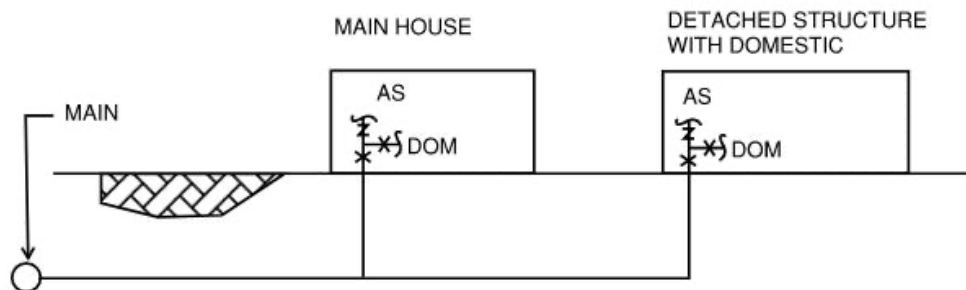
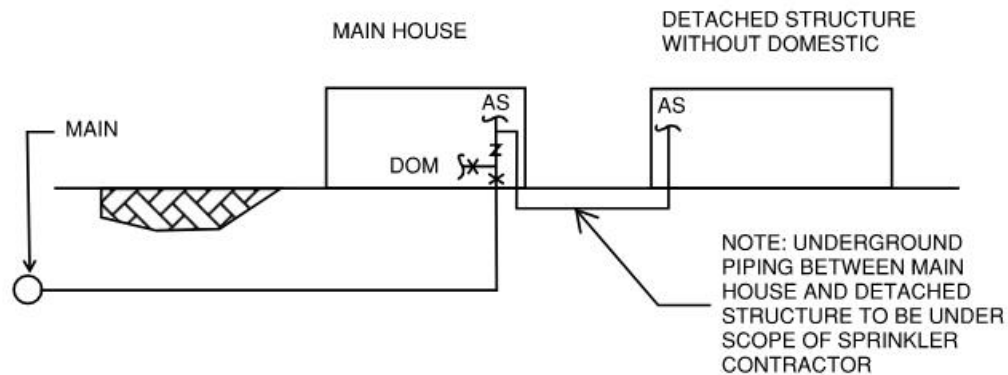

Figure 1
Figure 2
3. Where a single water source connection serves sprinklers in more than one dwelling or structure, piping shall be configured as Fig. 1 or Fig. 2 below. Any other configuration shall be by special consideration based on project specific conditions.